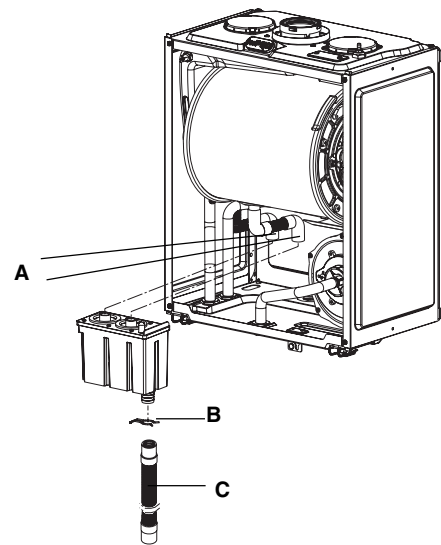

Fig. 36
6.25 CONDENSE TRAP REMOVAL (fig. 36)